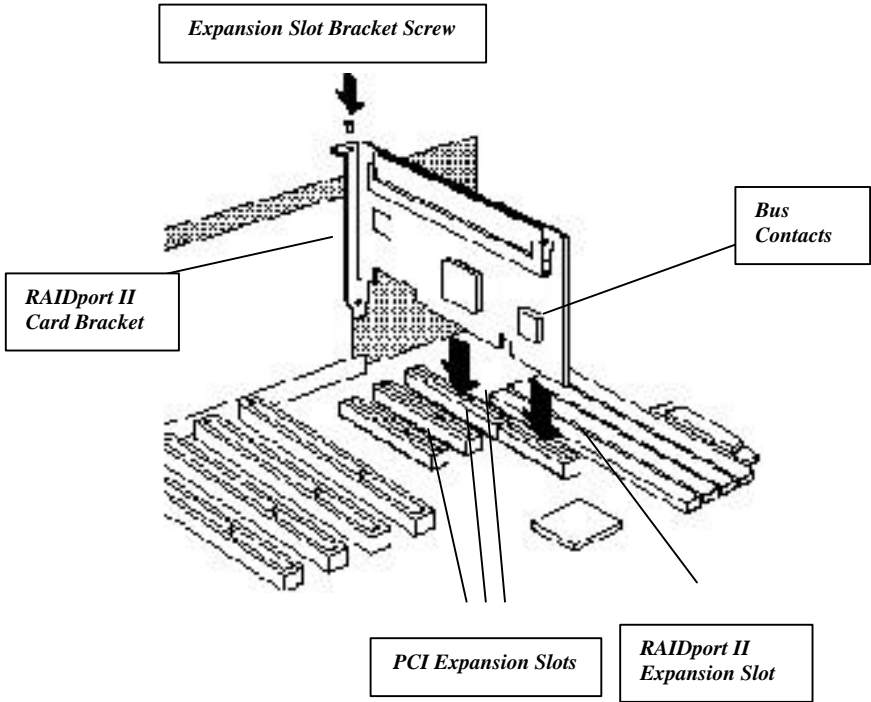

Figure 2-3: Installing the ARO-1130xA in a Typical PCI/RAIDport II Expansion Slot.
4. Insert the ARO- 1130xA in the slot; press down firmly so that the bus contacts are securely seated in the slot. Secure the adapter bracket with the screw you removed in Step 3, as shown in Figure 2-3.